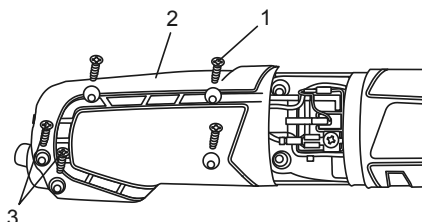

Figure 9
2. Lay the tool on its left side on a towel or on corrugated. (Figure 9)